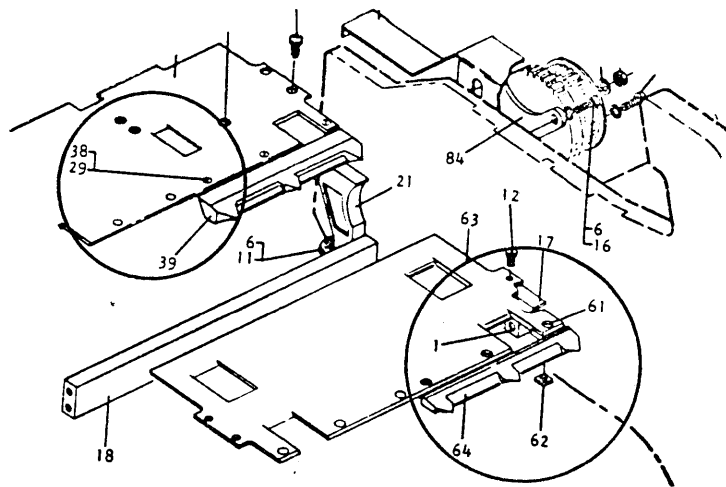

Figure 3
7. Jams may be caused by sharp corners on contact roll card guide, P/N 602247, or bouncing of card guide holding screws, P/N 52522, due to loose locknut, P/N 602229. See Parts Catalog 088 Figure 10, or see Figure 3, Reference 29, 38, 39-61, 62, 64.